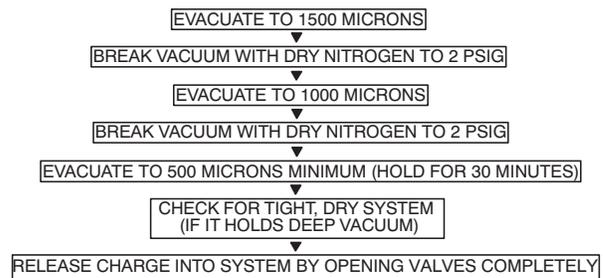

Fig. 10 – Triple Evacuation Method
7. The factory charge contained in the outdoor unit is good for up to 25ft. (8 m) of line length. If vacuum is complete per Fig. 10 or 11, open service valves to release factory charge into the system.
The triple evacuation method should be used. Refer to Fig. 10 and proceed as follows: